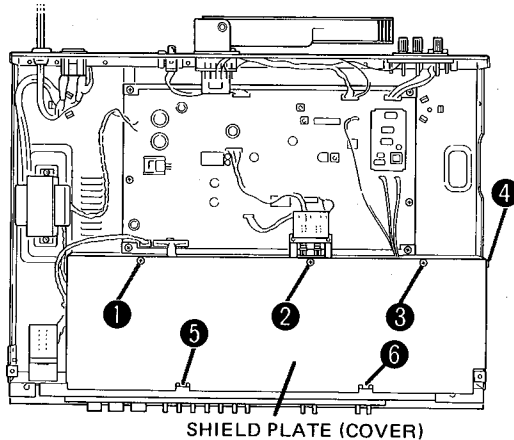

Fig. 4
2. Remove screws 1 to 4 in Fig. 4 and then slide the plate to its rear. Remove the actuator 5 and 6 in Fig. 4 and then remove the shield plate.